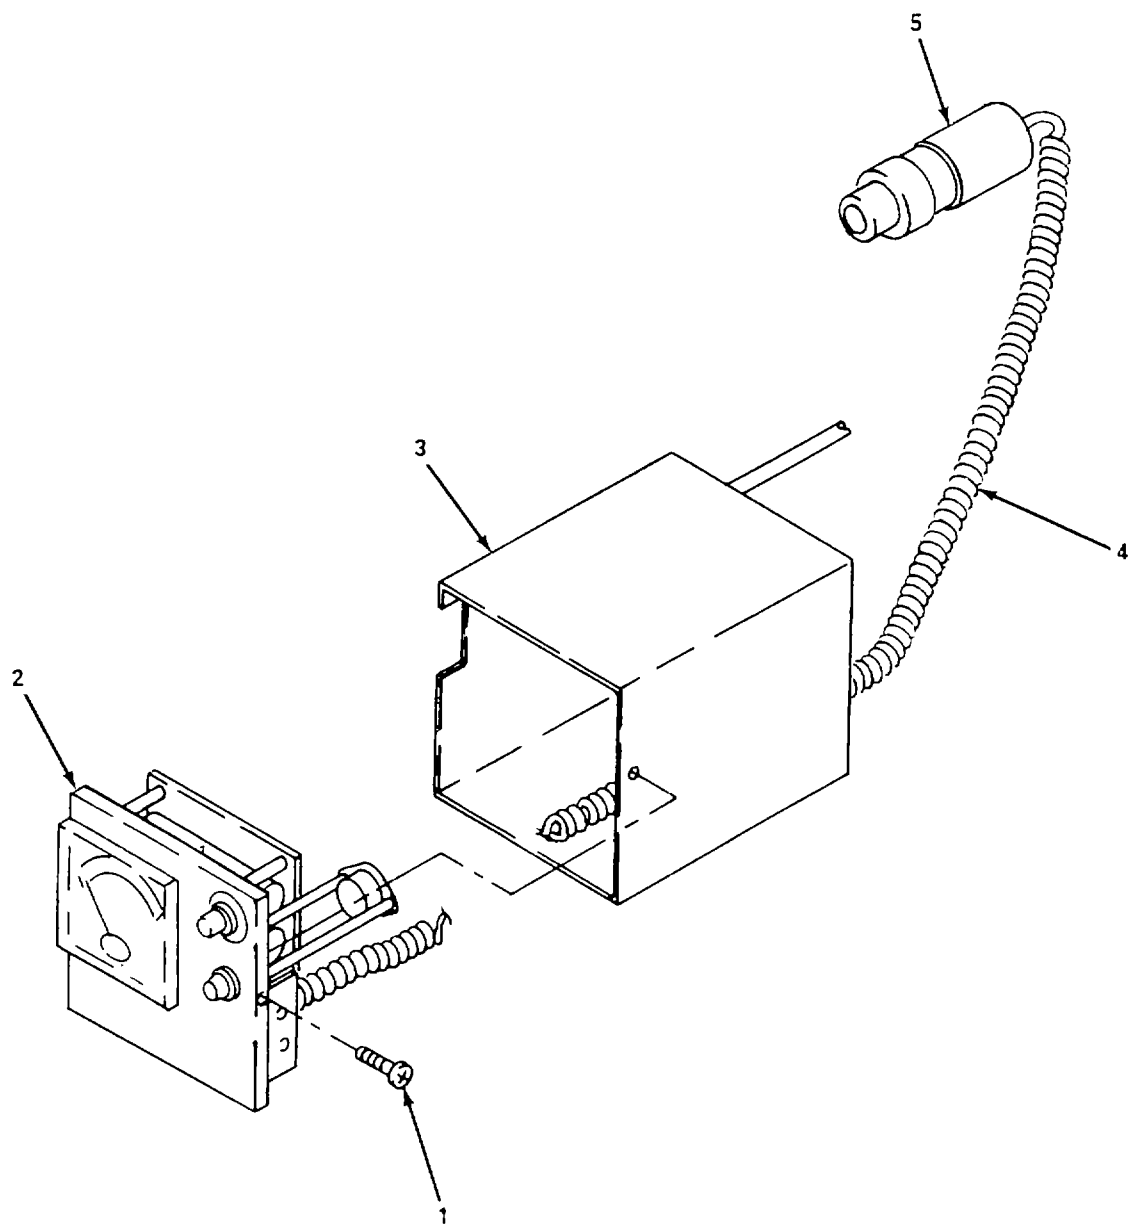

Figure 5-14. Portable Oxygen Analyzer Probe Assembly, Replace.
a. Replace. (figure 5-14)
- (1) Remove two screws (1) and remove front cover (2) from housing (3).
- (2) Tag and disconnect electrical leads (4) and remove probe assembly (5) from housing (3).
- (3) Insert probe assembly electrical leads (4) through hole in back of housing (3).
- (4) Connect electrical leads (4) to analyzer.
- (5) Install front cover (2) on housing (3) and secure with two screws (1).